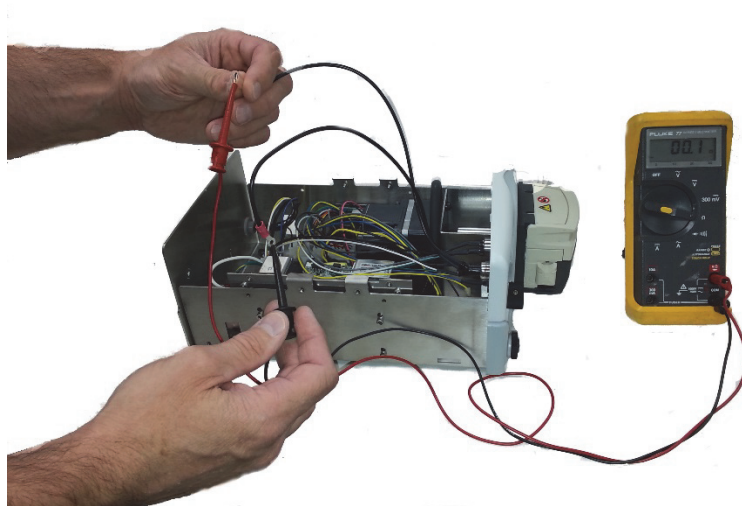

Figure 3
- c. Connect a DMM between the two wires. See figure 3.
- c. Connect a DMM between the two wires. See figure 3 in *"Troubleshooting, Unit will not power on"* Section.